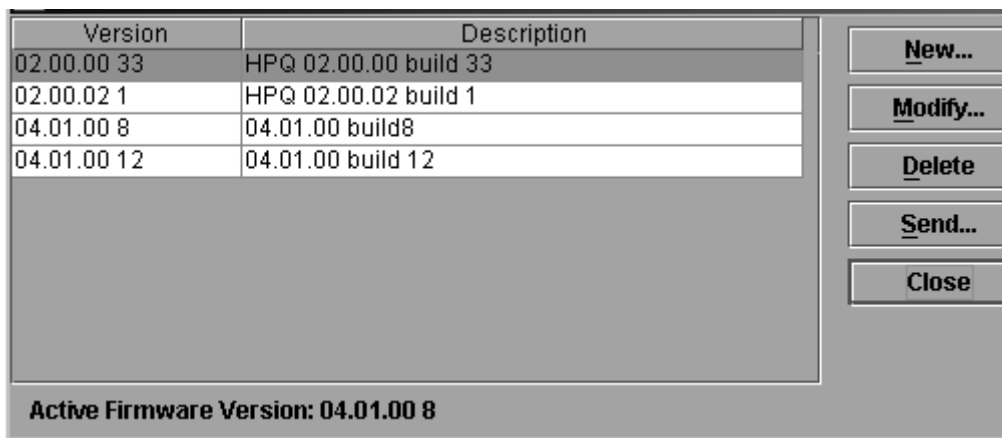

Figure 4–1: Firmware Library dialog box
3. Choose **Maintenance > Firmware Library**. The **Director Firmware Library** dialog box displays, as shown in Figure 4–1.